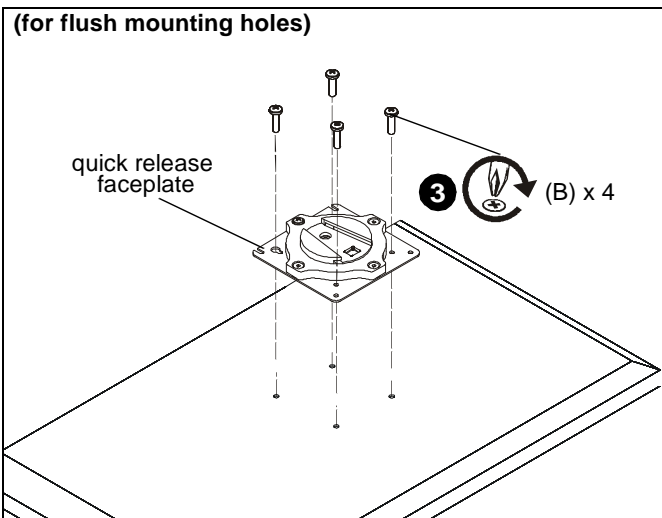

Figure 4
- Using Phillips screwdriver, carefully install four M4x10mm screws through corresponding holes on faceplate and into the mounting holes on the display. (See Figure 4)